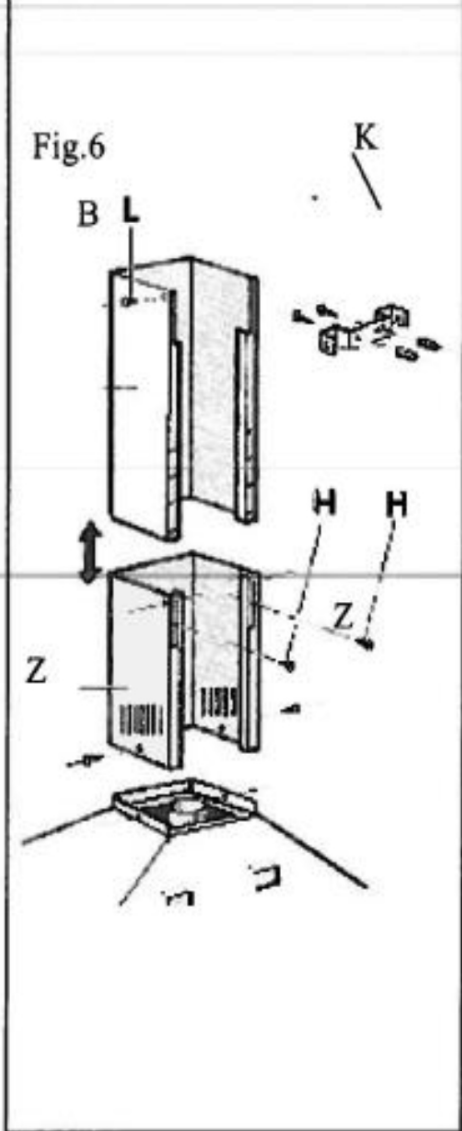

Fig.6
• **MONTAGE AFVOERPIJPEN (fig. 6):**